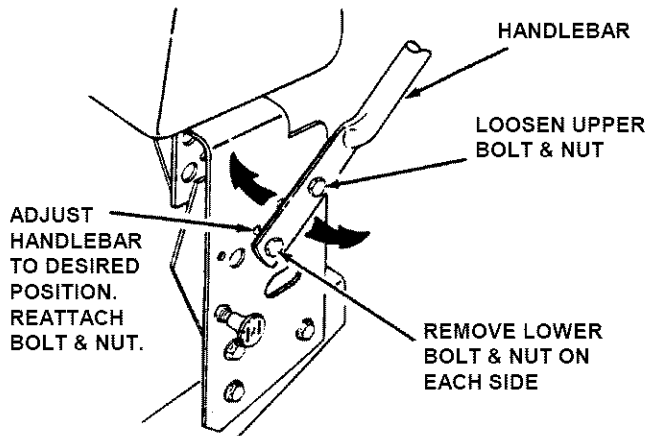

FIGURE 3.10
STEP 5: Loosen the upper bolt and nut on right and left side of Mower which holds Handlebar to Support Bracket. Remove the lower bolt and nut on each side. Retain this hardware. See Figure 3.10.